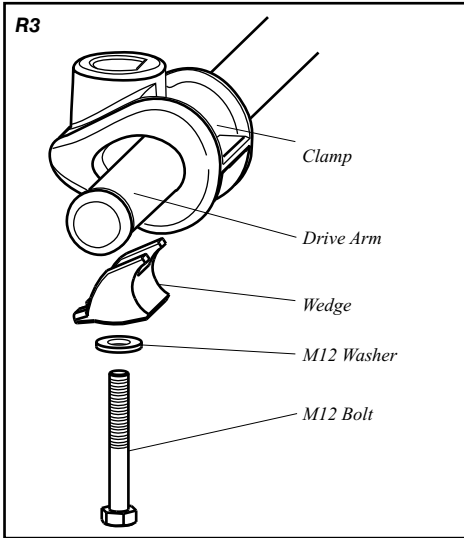

Figure 20 Assemble Clamp to Drive Arm (R3 only)
12. Fit the drive arm and connecting arm assembly to the motor output shaft as in Fig. 20, using the supplied M10 or M12 bolt and washer (Check that the flats on the shaft and clamp line up before tightening up the bolt.)